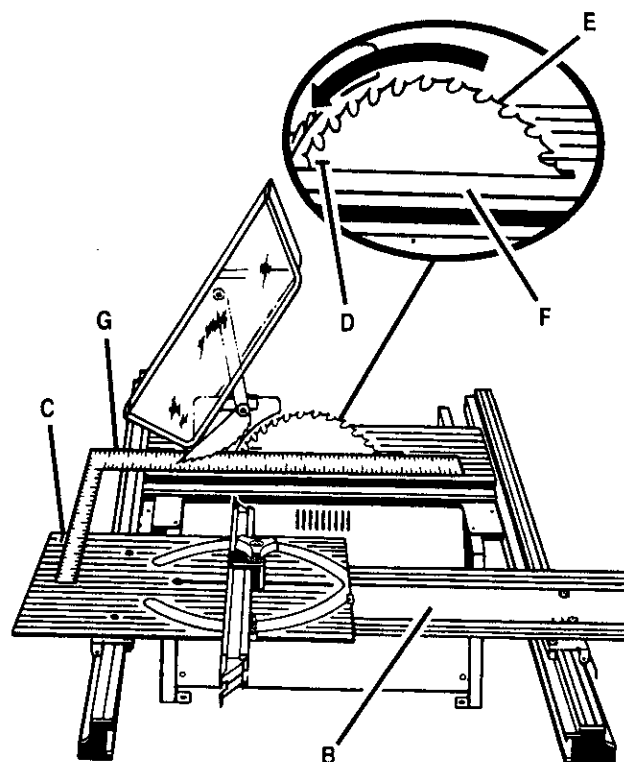

Figure 55
- Remove framing square and slide miter table to the rear of miter base as far as it will go. See Figure 55.